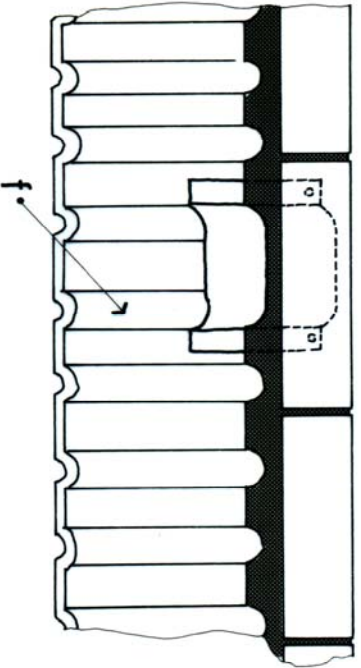

Fig. 5
- On a profiled tile roof, the Batslate can only be fitted under the ridge tiles. **Figs. 5 and 6**.